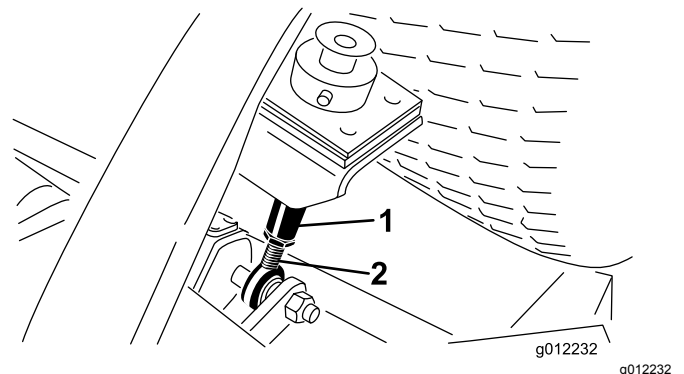

Figure 17
6. Loosen the jam nuts on the bottom of the height-of-cut rods (Figure 17).